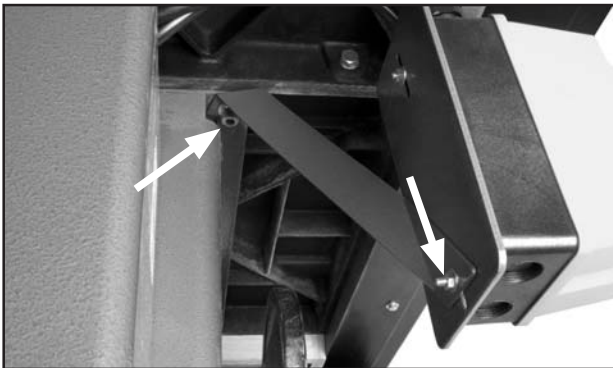

Figure 17. Installing switch bracket.
2. Mount the switch brace, as shown in **Figure 17**, using the table mounting fasteners on the top end and the switch mounting fasteners on the bottom end.